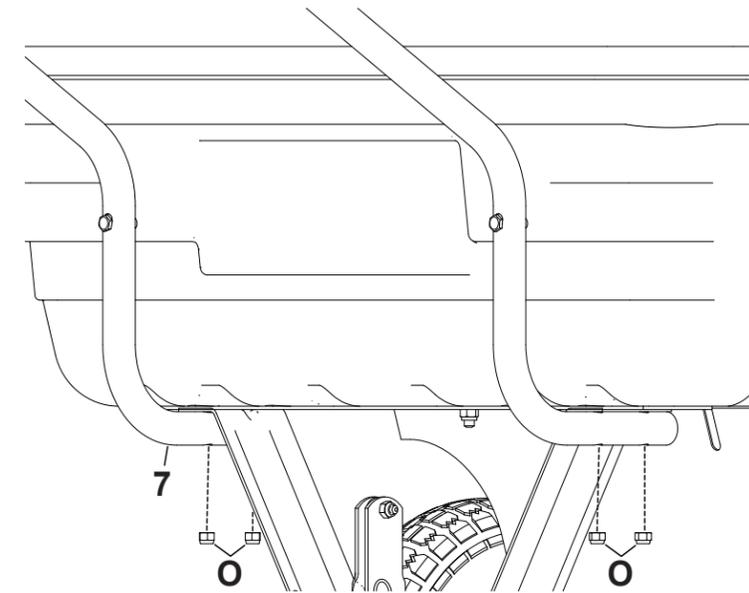

Figure 12
STEP 5 (SEE FIGURE 12): Install two 1/4-20 nylock nuts (O) onto the two bolts from the bottom of the handle (7).
STEP 6 (SEE FIGURE 12): Repeat on the other side.
STEP 7 (SEE FIGURE 12): Tighten hardware from steps 1 and 2 for the handle installation.